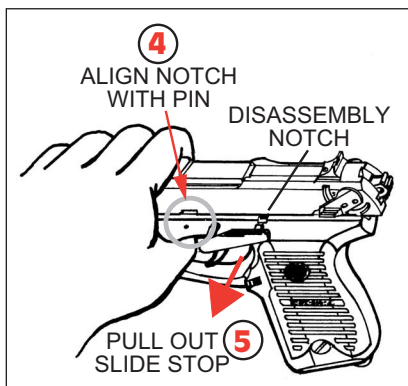

FIGURE 5
4. Remove fingers from ejection port. Grasp slide tightly. Now press down on slide stop and allow slide to move slowly forward until the slide stop spring retainer pin is aligned with the front edge of the slide stop notch. Press in on right-hand end of slide stop and pull slide stop out of frame to the left until it locks in its withdrawn position. (See Figure 5, p.18). Do not attempt to pull it completely out of the frame.